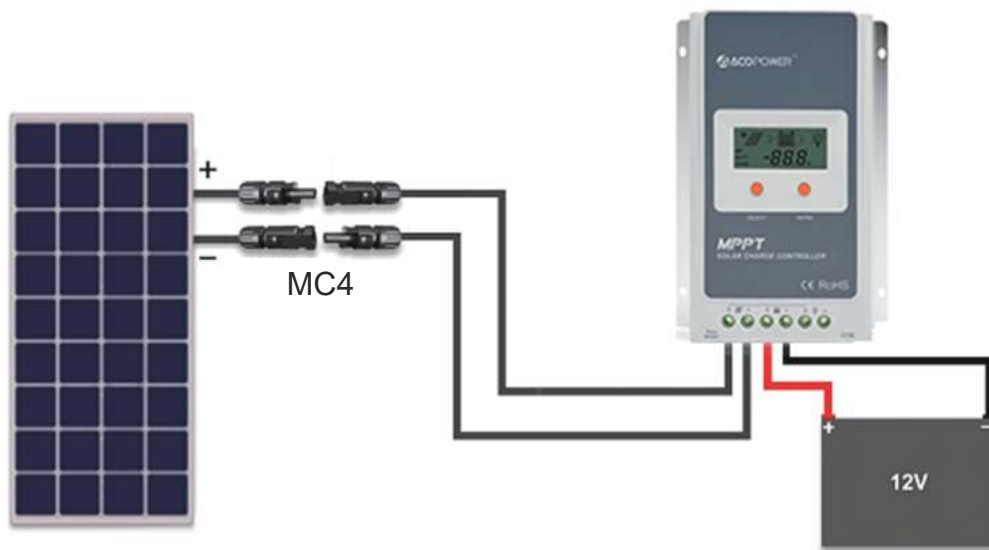

Figure 4 Completed 12V off-grid system
Please refer to **Figure 4** when completing the following connections:
1. First, mate the “Male” MC4 Connector from the solar panel that has the negative (-) label with the “Female” MC4 Connector of your adapter kit as shown in Figure 4. Then connect the bare stranded portion of the cable to the negative (-) solar input terminal on the charge controller.
2. Next, mate the “Female” MC4 connector from the panel that has the positive (+) label with the “Male” MC4 connector of your adapter kit as show in Figure 4.